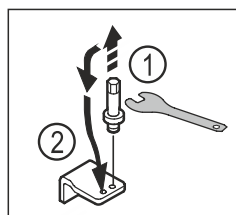

Fig. 13
- ▶ Unscrew the bolt of the lower swap bearing block with an Allen key AF5. *Fig. 13 (1)*
- ▶ Insert the bolt on the opposite side. *Fig. 13 (2)*